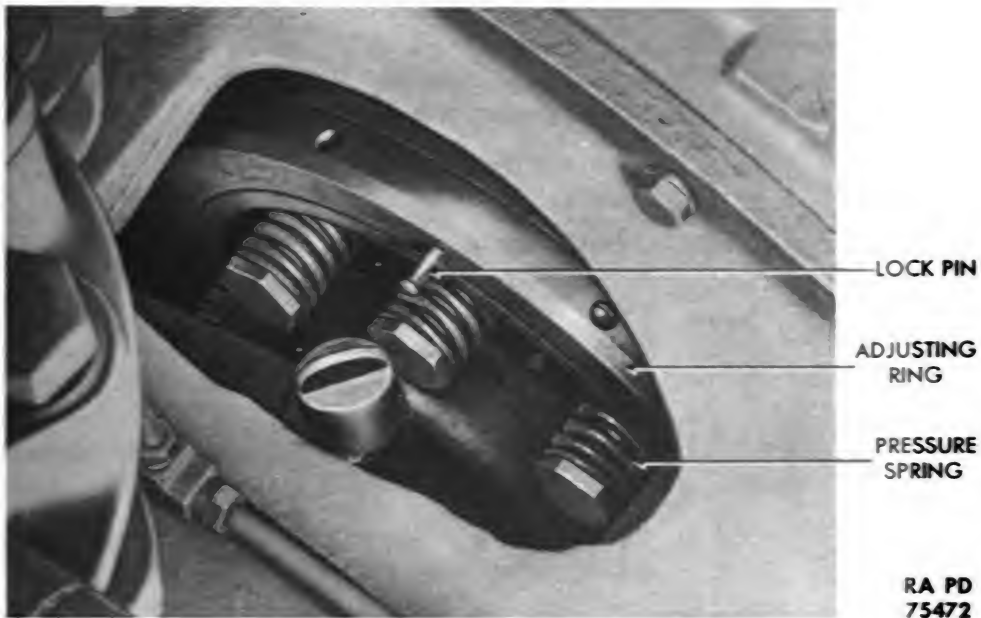

Figure 15 – Adjustment Fittings on Compressor Clutch
b. **Clutch Adjustment** (fig. 15). After considerable wear, the clutch may require adjustment to bring it into proper position. As the clutch wears, the pressure springs which take up wear, reach the limit of their expansion. When this occurs, adjust the clutch as follows: Pull